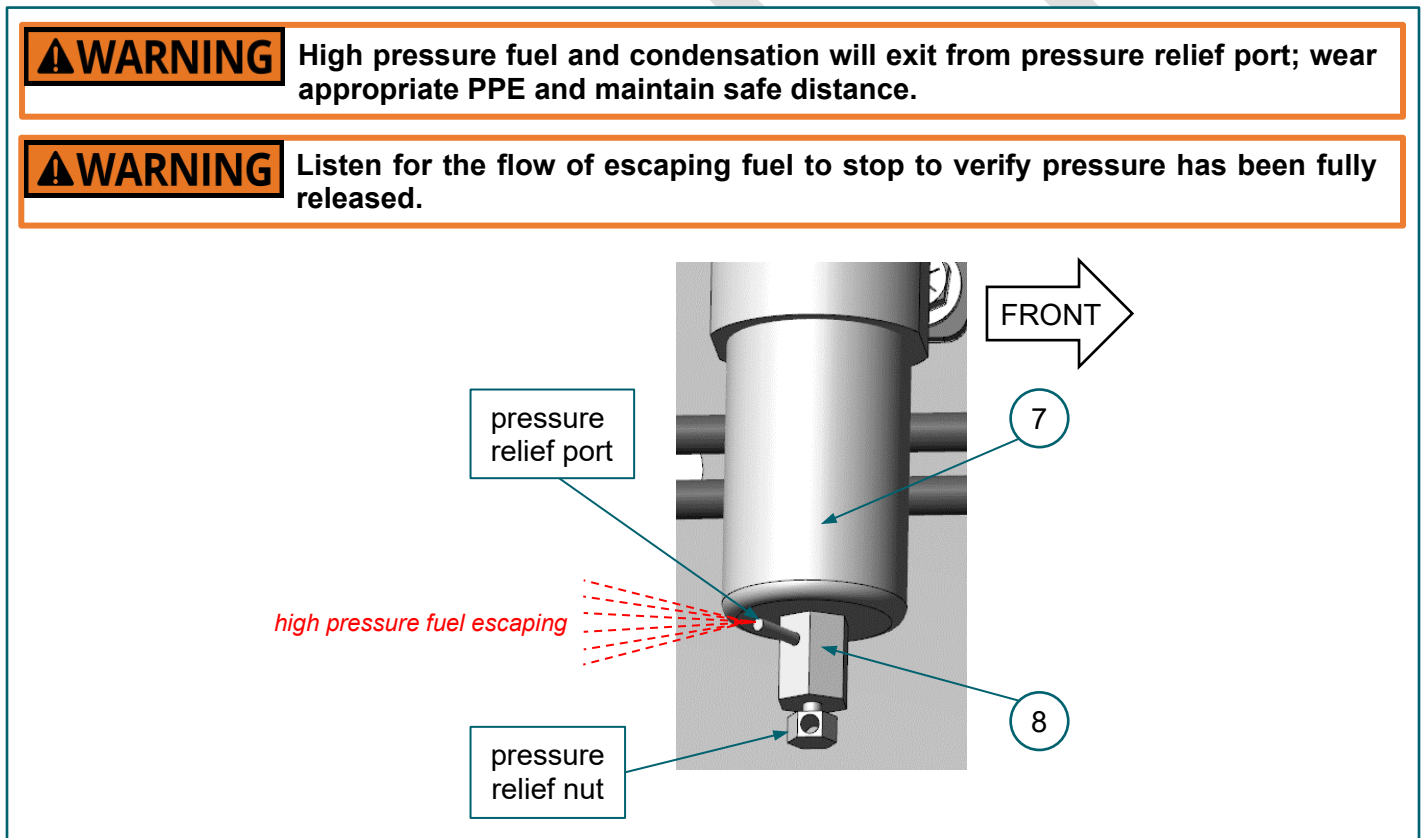

FIGURE 2-3. (7) HP fuel filter, (8) bleed valve, pressure relief nut, pressure relief port
7. Use a 7/16-in wrench to loosen pressure relief nut on the (8) bleed valve. **FIGURE 2-3**